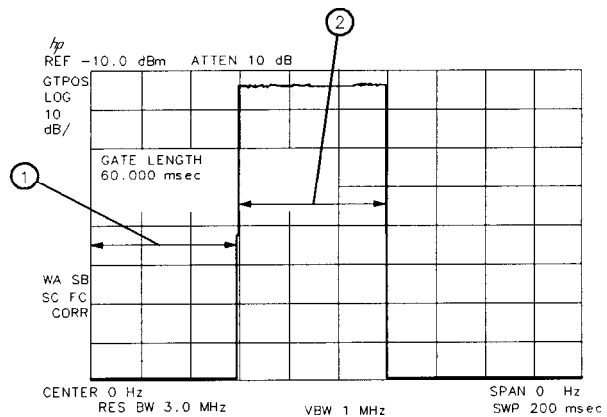

Figure 5-30. Gate On
3. Press **Previous** Menu, GATE DN OFF (so that ON is underlined). See Figure 5-30.
Item	Description of Items in Figure 5-30